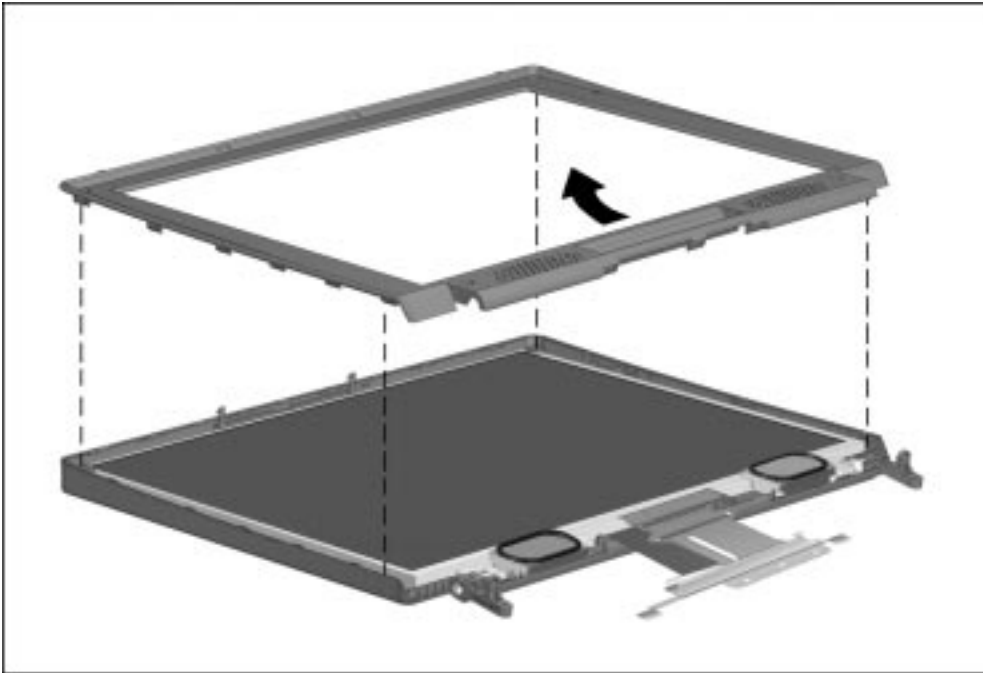

Figure 5-60. *Removing the Display Bezel*
9. Beginning at the bottom inside edge of the display bezel, pry the bezel loose (Figure 5-60). Continue separating the bezel from the enclosure along the inside edges of the two sides and then slide the bezel off the top of the display enclosure.